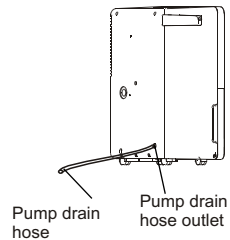

Fig. 14
- Reset the pump drain hose into the pump drain hose outlet for depth of 15mm at least (See Fig. 14), then lead the water hose to the floor drain or a suitable drainage facility.